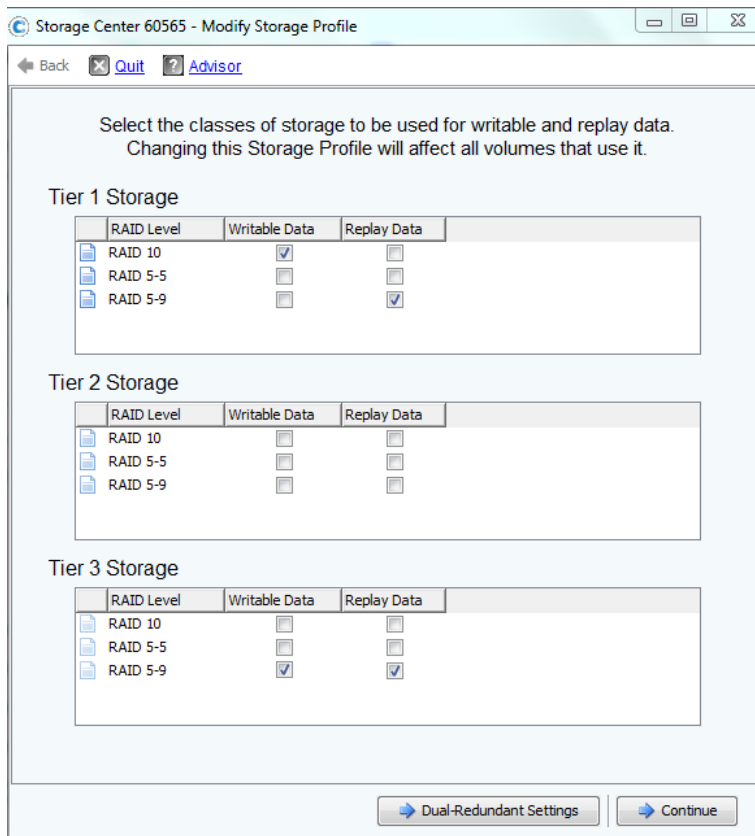

Figure 30. Set Writable Data and Replay Data settings
2. Enable and disable the **Writable Data** and **Replay Data** check boxes, as shown in Figure 30, and then click **Continue**.